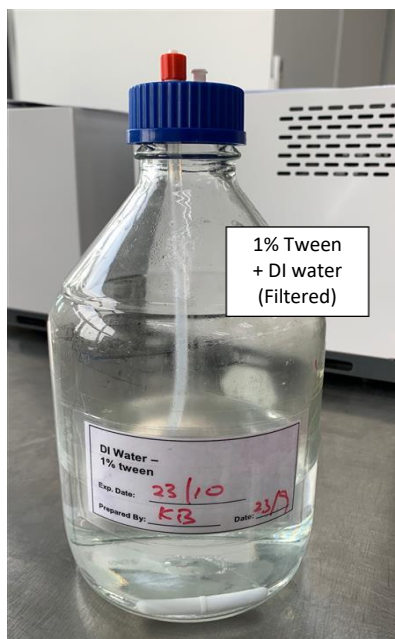

Figure 3-14: Buffer inlet bottle cap connected to 2L bottle containing wash buffer of choice.
2. Secure a buffer inlet bottle cap onto a 2L glass bottle containing the wash buffer of choice, as shown in Figure 3-14.